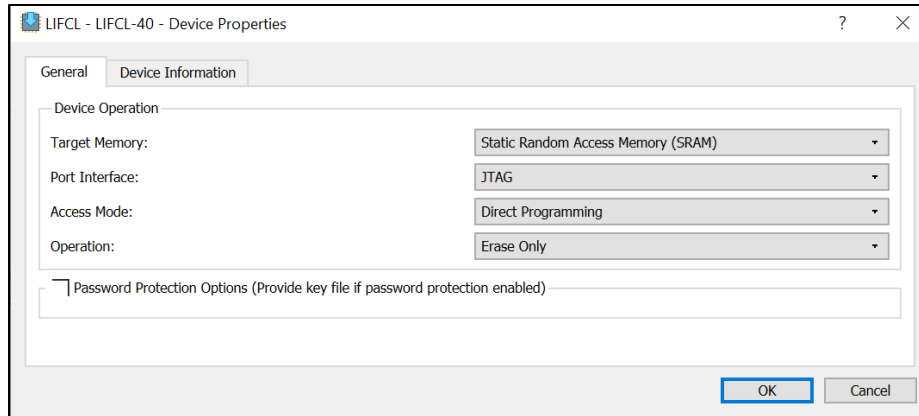

Figure 4.4. Radiant Programmer – Device Operation
5. Select **JTAG** for **Port Interface**, **Direct Programming** for **Access Mode**, and **Erase Only** for **Operation** as shown in Figure 4.4.